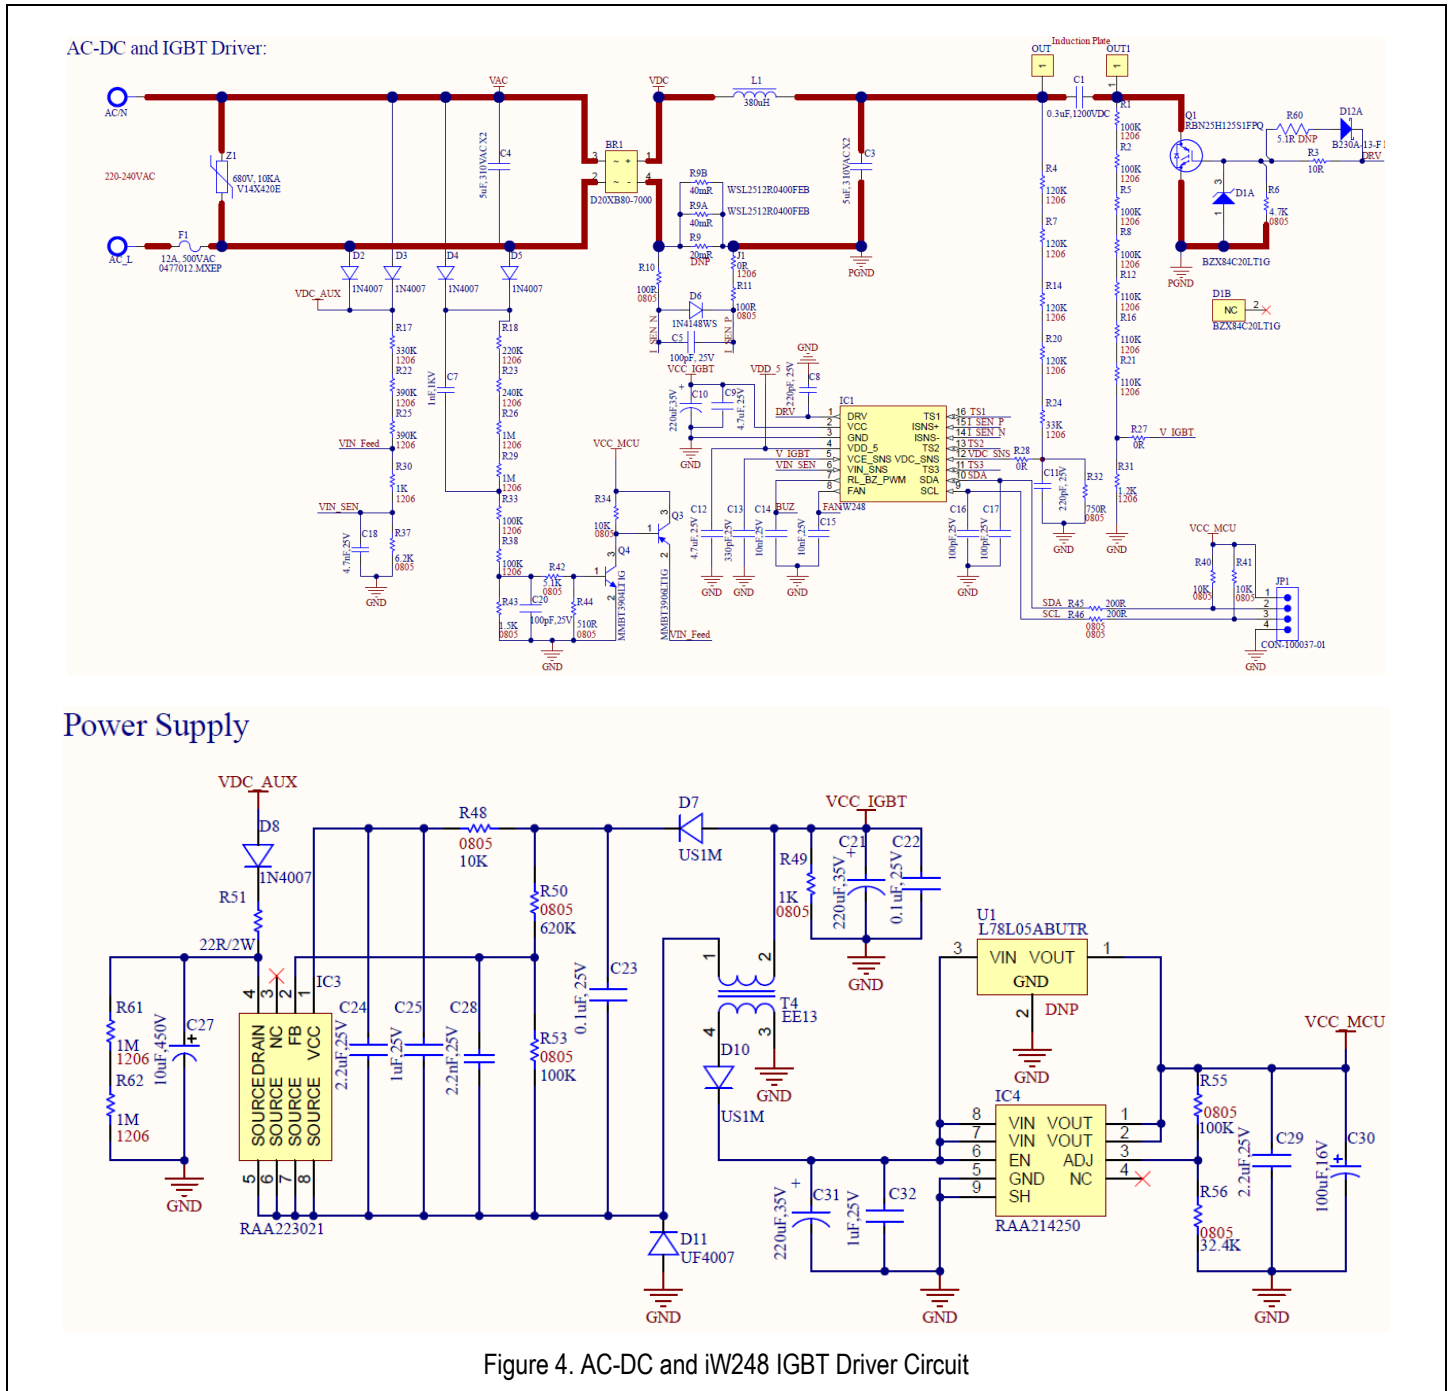

Figure 4. AC-DC and iW248 IGBT Driver Circuit
The iW248 is a digital controller with an integrated IGBT driver for inductive (IH) cooking applications. Once V_{CC} reaches the start-up threshold level, the controller operates in idle mode and is ready to receive instructions from the user interface MCU. Soon after the iW248 receives instructions, it starts to detect and determine the input line voltage. If the input line voltage is within the operating range, the controller enters pot detection mode. The iW248 features an innovative pot detection method by detecting the number of rings on V_{CE} of the IGBT. A pulse is sent out at DRV pin every second by default, a pot is detected if the number of rings on V_{CE} is less than nine. When a pot is detected, the iW248 goes to constant power mode operation or constant current mode according to the input line voltage. Figure 4 outlines the state machine diagram of iW248.